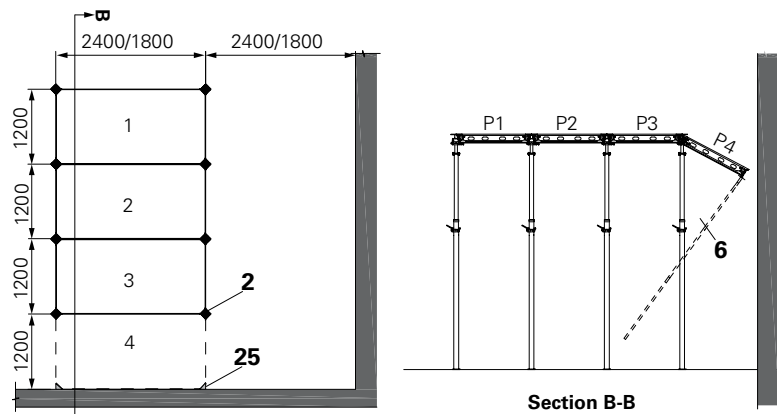

Fig. A6.08
2. Hang the panel 4 along with the corner insert (**25**) onto the drophead ADH (**2**) flyplate pin. (Fig. A6.08)
3. Fix the shuttering aid AD (**6**) at the edge rail A (**1.3**) to swing up in shorter direction. (Fig. A6.08)